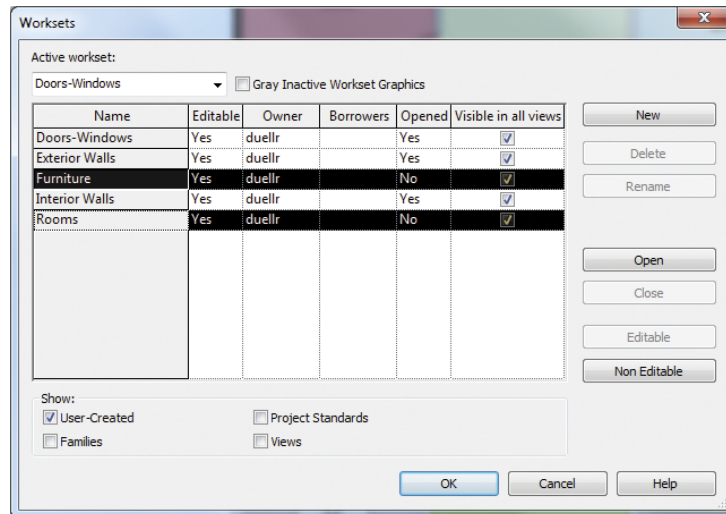

FIGURE 10.15 Closing worksets in the model
- In this example model there are five worksets: Doors-Windows, Exterior Walls, Furniture, Interior Walls, and Rooms. Select the Furniture and Rooms worksets and click the Close button (Figure 10.15). You can select multiple worksets at the same time by holding down the Ctrl key while selecting.